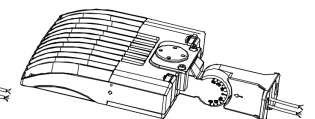

Fig. 6
2. Install the bracket on the fixture. (Fig. 6)